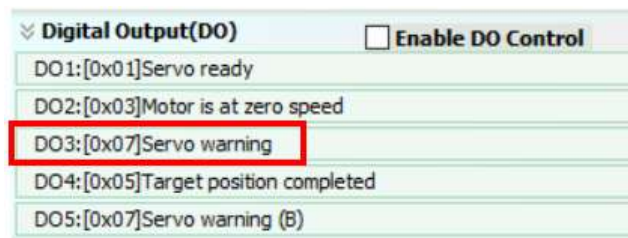

Fig.30 – DO settings
2. In order to verify if AL040 will be triggered when the position error exceeds P1-73, **DO:0x07 Servo warning** is used to indicate the timing when it's triggered. DO settings in this example is shown in Fig.30.